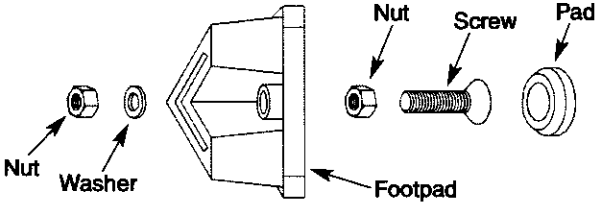

Figure 4 – Assemble Leveling Footpad
- Insert pad onto countersink screw (see Figure 4).